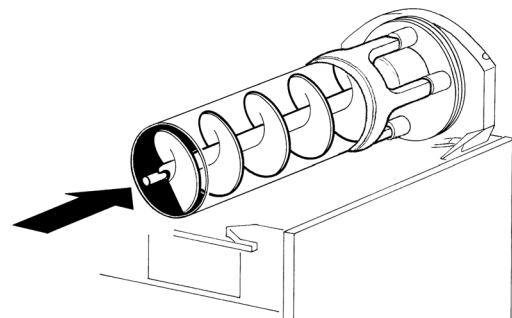

figure 16
- 5 - Insert the auger into the evaporator taking care to accompany it to the end so as to prevent it from hitting against the rear wall (see figure 16).